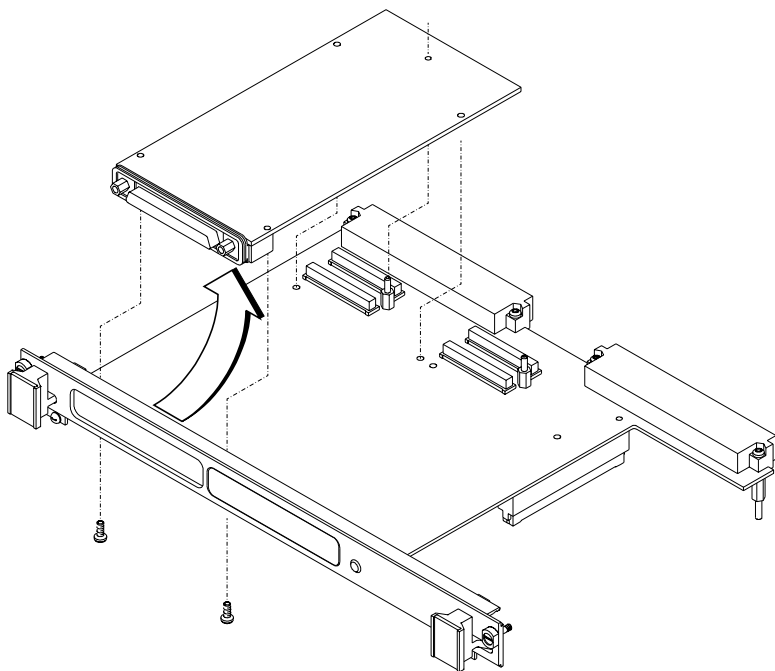

Figure 5-9 Removing a PMC card from the Expansion Adapter
- 6 To remove a PMC card from the expansion adapter, remove the four screws from the bottom of the expansion adapter and separate the PMC card from the expansion adapter, as shown in Figure 5-9.